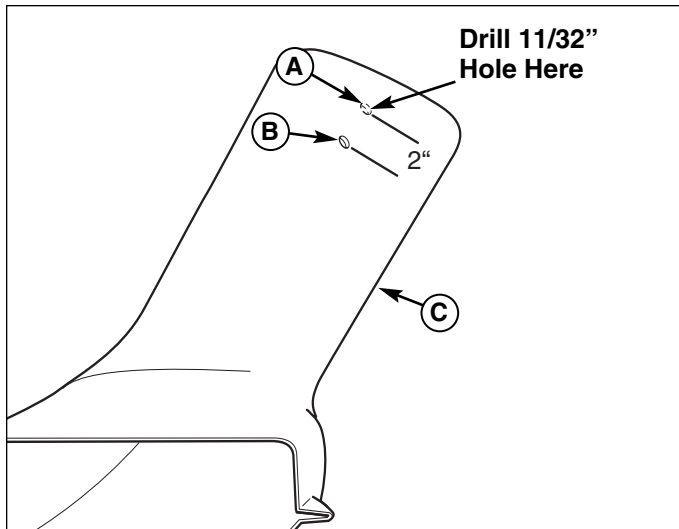

Figure 5. Drill Hole In Boot
4. Drill a new 11/32 hole (A, Figure 5) 2" from the existing hole (B) in boot (C) as shown.